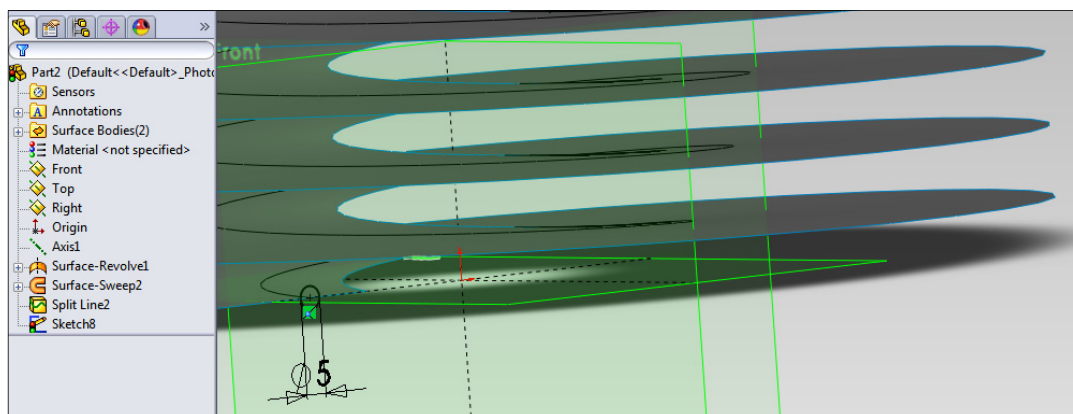

Fig.9
8. In **Right** plane **Sketch**  profile for push spring and define profile diameter: Fig.9. You can **Hide**  revolved surface for better visibility at intersection curve.